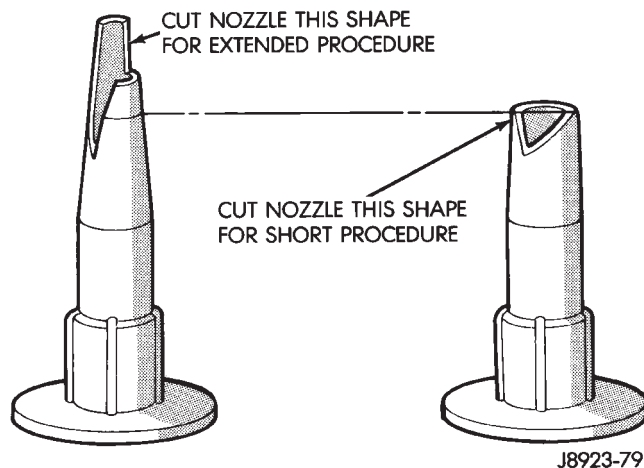

Fig. 16 Applicator Nozzle Preparation
- (11) Cut the urethane adhesive applicator nozzle according to the instructions in Figure 16.
(10) Cut the urethane applicator nozzle according to the instructions in Figure 16.
(11) Apply a continuous bead of urethane to the surface area with blackout primer on the interior side of glass. The bead should be 6-mm (1/4-in) wide by 9-mm (3/8-in) deep for best results.